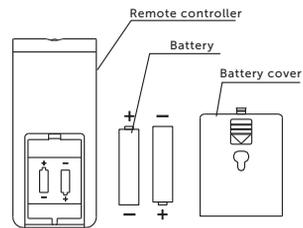

Fig.10 Battery Compartment
- (1) Slide off the battery compartment cover located at the back of the remote.
- (2) Insert the batteries, and make sure the batteries are placed as shown in Fig. 10.
- (3) Slide back the battery cover.